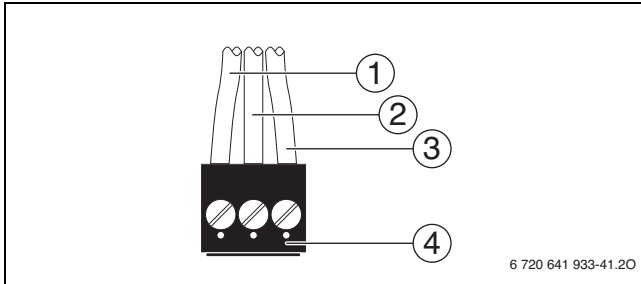

Fig. 44 Attach plug (external pump)
- ▶ Connect cable to **the black plug** according to Fig. 44.